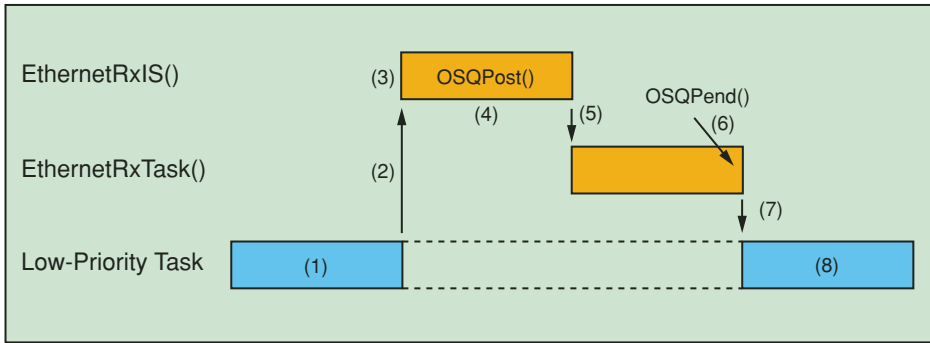

Figure 1 – Execution profile of an ISR and  $\mu\text{C}/\text{OS-II}$
The execution profile for these two functions is shown in Figure 1.
$\mu\text{C}/\text{OS-II}$  then locates the next most important task that's ready to run (the "Low-Priority Task" in Figure 1) and switches to that task by loading the MicroBlaze registers with the context saved by the ISR (7). This is called a *context switch*.  $\mu\text{C}/\text{OS-II}$  takes less than 1 microsecond at 150 MHz on the MicroBlaze processor to complete this process. The interrupted task is resumed exactly as if it was never interrupted (8).